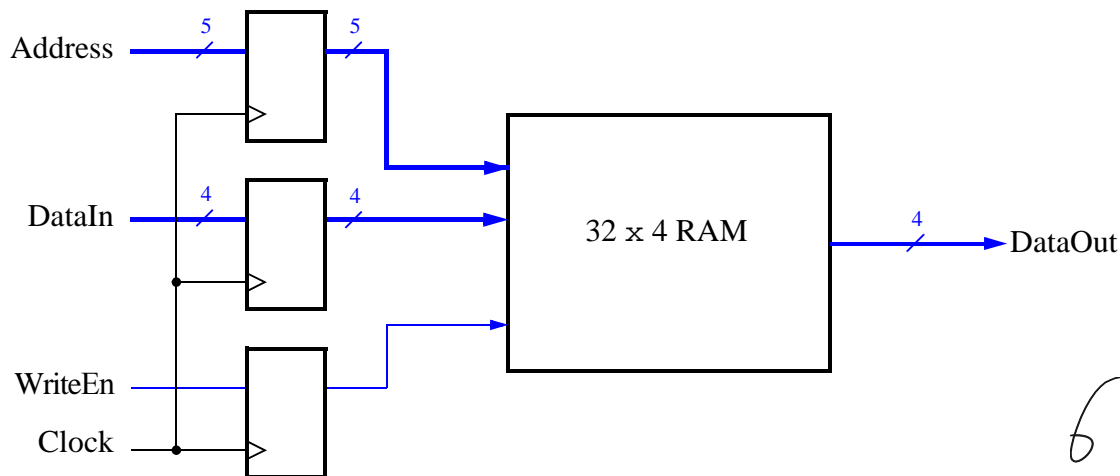

Figure 1: Schematic of the  $32 \times 4$  embedded memory module.
The memory module we would like to create is shown in Figure 1. It consists of a memory block, an address register, a data register and a control register. You can see that the address, input data, and the write enable control signal are all stored in registers before being presented to the memory array. Using the registers means that the *DataOut* value will be stable for one clock cycle and allows the inputs to be changed after the rising clock edge in preparation for the next clock cycle. It is a small memory so that we can easily interact with it using the available switches and displays on the DE1-SoC board.
8. Examine the newly created Verilog file. Observe that it declares a module with the required ports as shown in Figure 1. You can now instantiate the module into any design. **(PRELAB)**